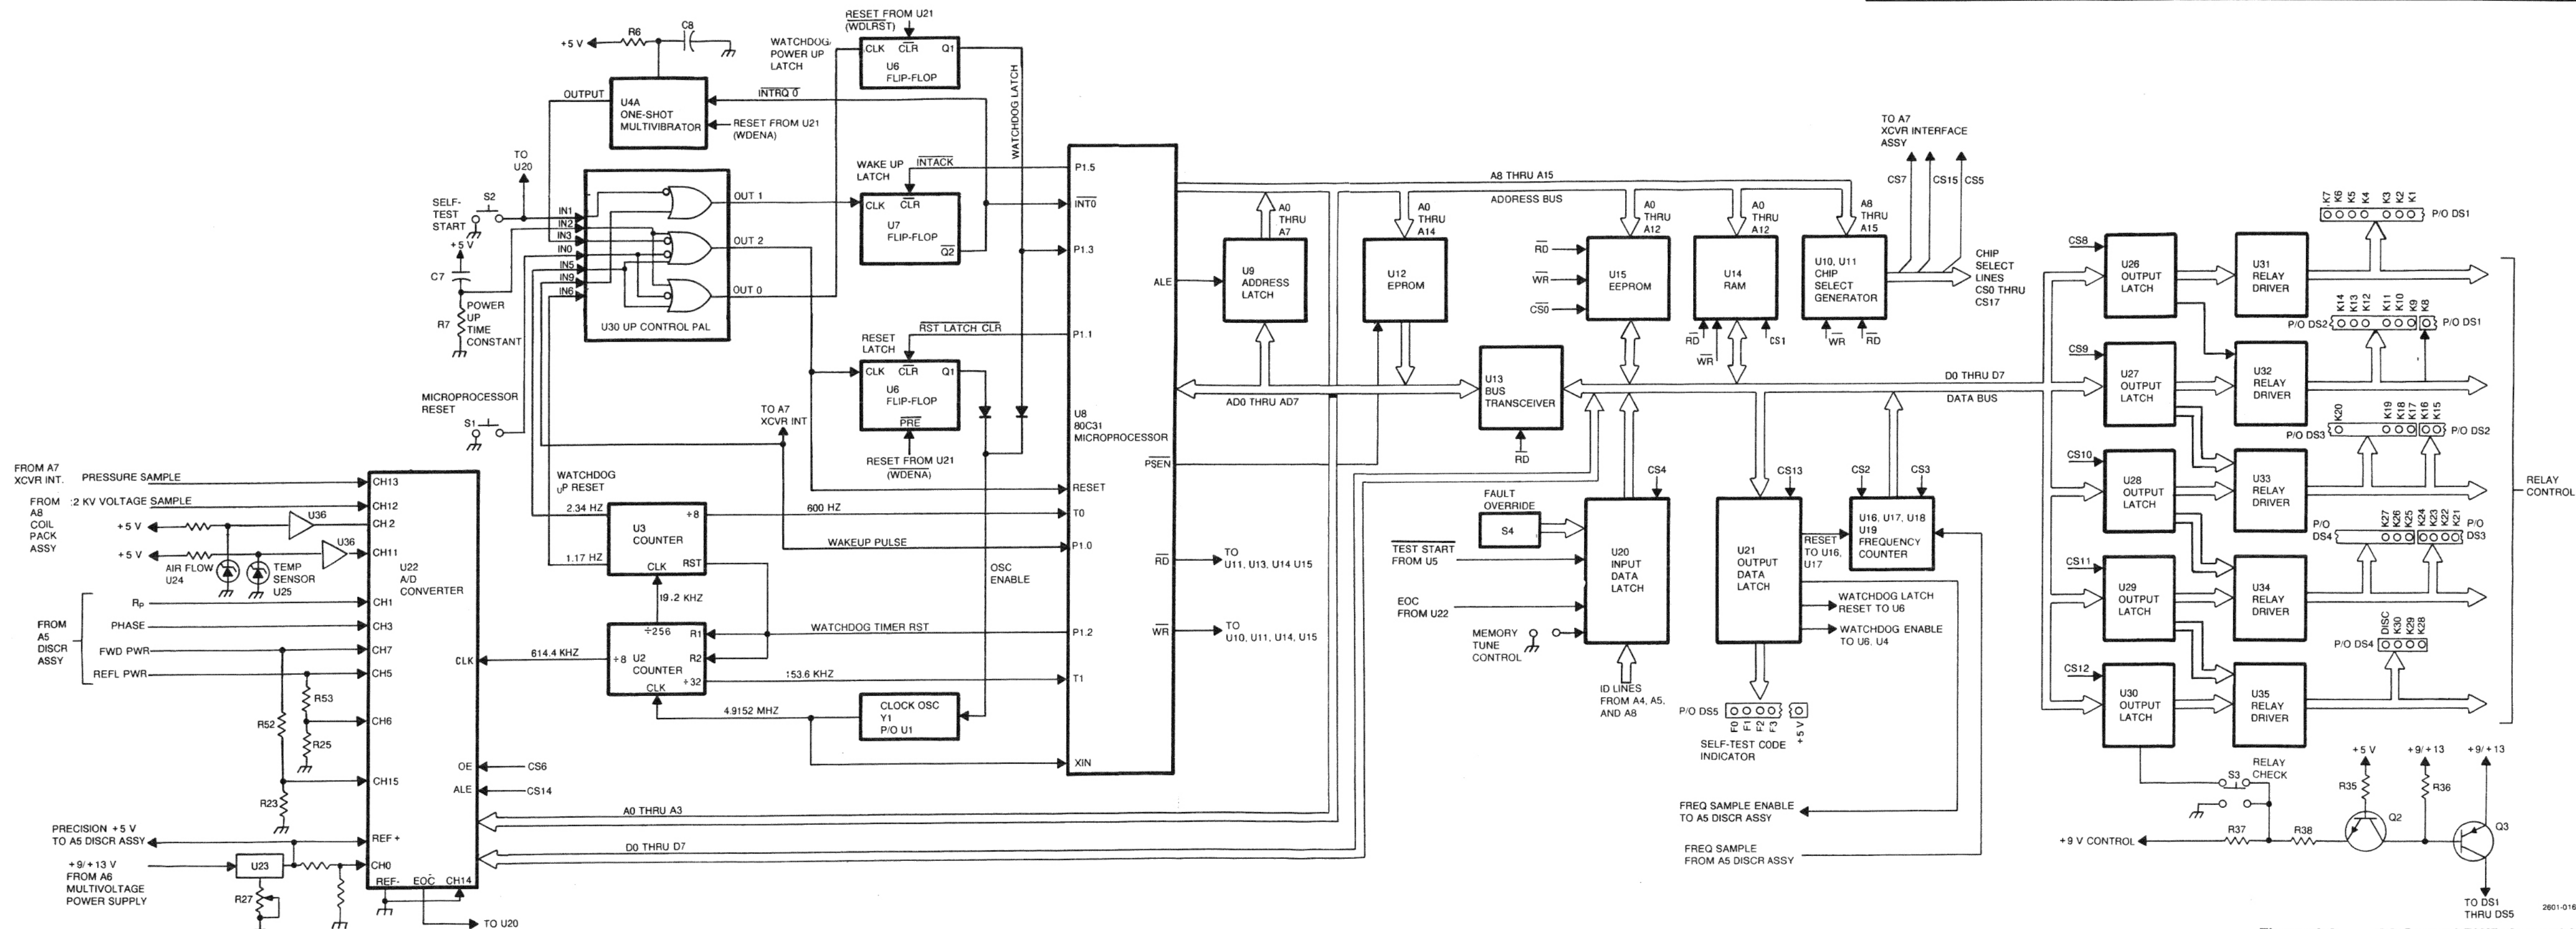

Figure 4-6. A3 Control PWB Assembly Simplified Schematic Diagram
4.3.6 A3 Control PWB Assembly (see figure 4-6)